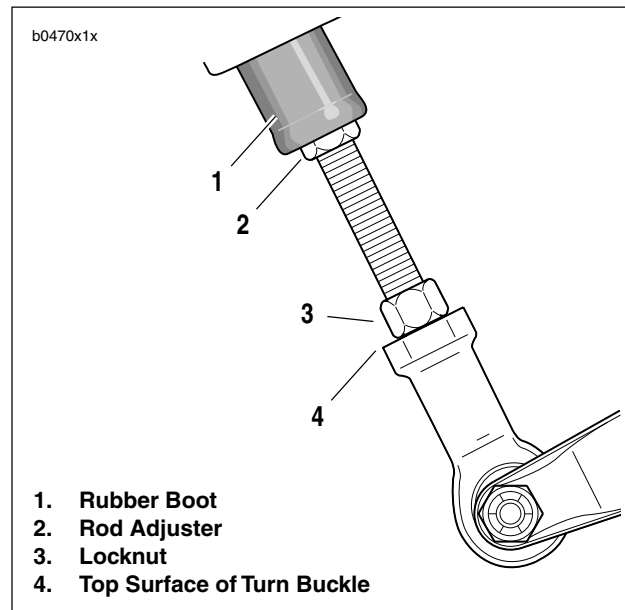
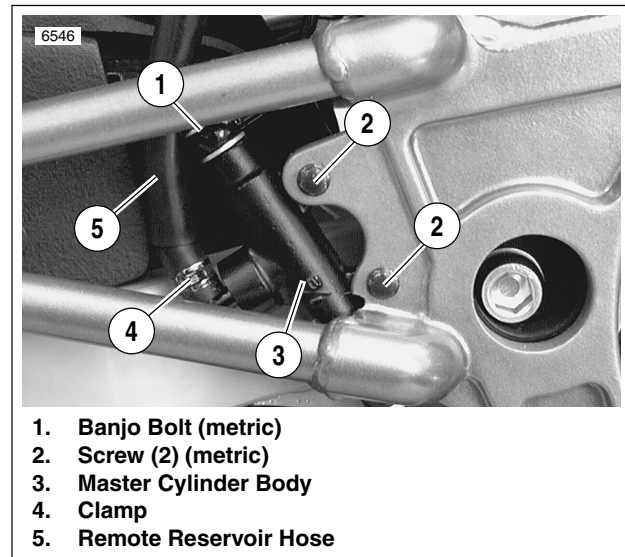

Figure 2-37. Brake Push Rod
Figure 2-38. Master Cylinder Mounting
3. See Figure 2-37. Disconnect push rod from brake pedal turn buckle (4).
- a. Spin locknut (3) away from top surface of turn buckle.
- b. Turn rod adjuster (2) to free rod from turn buckle (4).
4. See Figure 2-38. Remove two screws (2) (metric) to detach master cylinder (3) from frame.
2. See Figure 2-38. Attach master cylinder (3) to frame using two screws (2) (metric). Tighten to 8-10 ft-lbs (11-14 Nm).
4. See Figure 2-37. Install push rod.